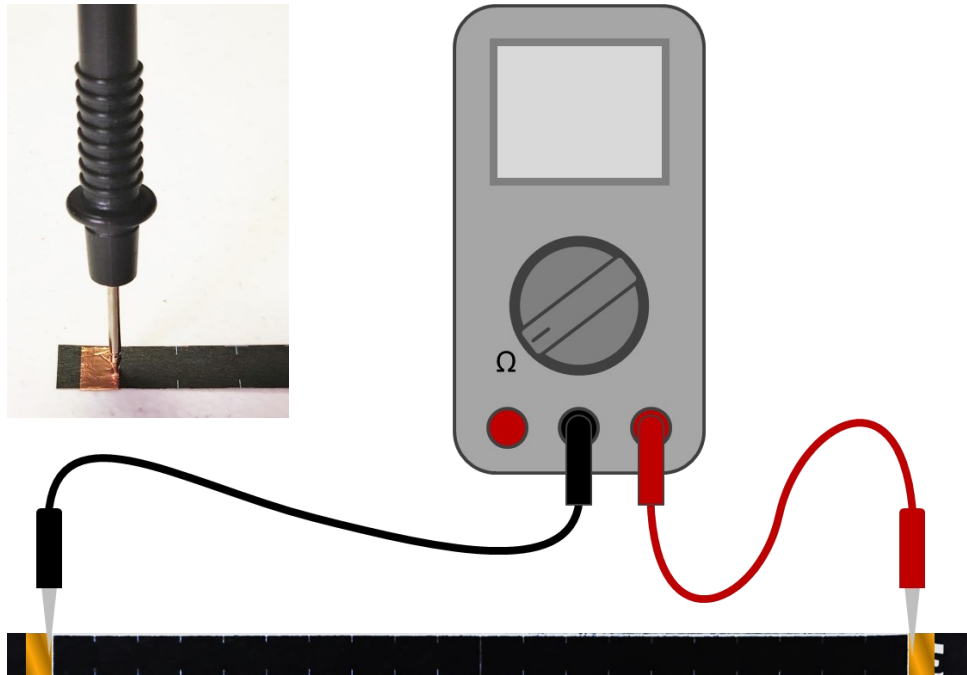

Fig. 10: Measure the resistance of each conductive paper strip by pressing the multimeter probe tips into the conductive tape at each end of the paper strips.
3. Measure the resistance of each conductive paper strip by placing one probe at each end, point down on the conductive tape (see Fig. 10). Record the resistance,  $R$ , and width,  $w$ , for each strip.
Note: The resistance will vary slightly depending on where you place the probe tips. To minimize any error from this, try to place the multimeter probe tips in the same place on the conductive tape strips for each resistance measurement. In Fig. 10, the edge of the conductive tape was selected as the measurement point.